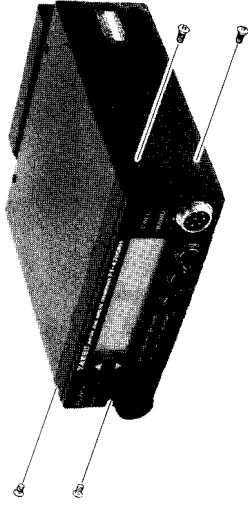

Figure 4
- 1) Disconnect the power cable, remove the two screws on each side affixing the Front Panel/Controller (Figure 4) and gently separate it from the transceiver chassis by first prying the top edge forward.